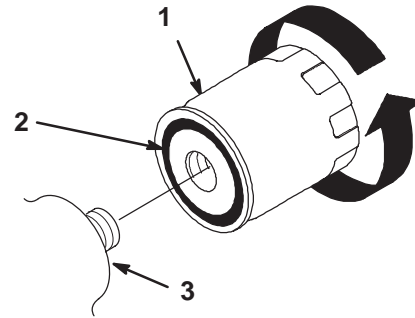

Figure 29
6. Apply a thin coat hydraulic fluid to the rubber gasket on the replacement filter (Fig. 29).
7. Install the replacement hydraulic filter onto the filter adapter. Tighten it clockwise until the rubber gasket contacts the filter adapter, then tighten the filter an additional 1/2 turn (Fig. 29).